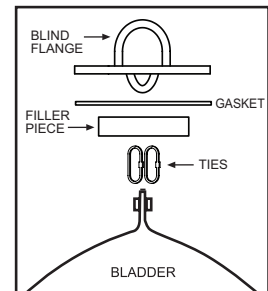

Figure 4
10. Cut off existing wire ties attaching blind flange (Figure 4) to the old bladder and remove old gasket. The flange filler piece will need to be re-used.
18. Using the wire ties provided, attach the blind flange to the new bladder. The new gasket and flange filler piece should be installed as shown in Figure 4.